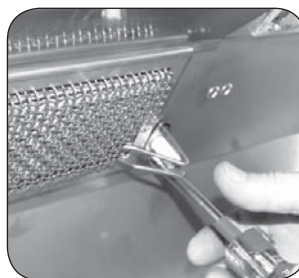
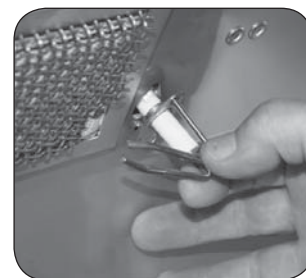

Fig. 29-3
Fig. 29-4
a. Remove the backburner electrode mounting screw (1/4" hex) (see Fig. 29-3) and loosen the electrode. Carefully pull the electrode assembly slightly from the grill wall to give enough clearance for the backburner to be removed (see Fig. 29-4).